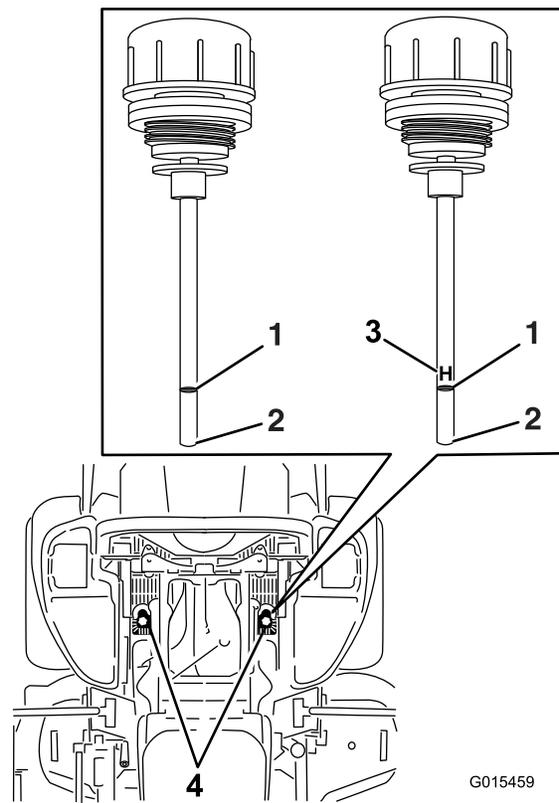

Figure 88
6. Clean the area around the dipsticks of the hydraulic-system reservoirs (Figure 88).
7. Remove 1 dipstick from the hydraulic reservoir (Figure 88).
9. Remove the dipstick and look at the end (Figure 88). If the fluid level is at the ADD mark, slowly pour only enough fluid into the hydraulic reservoir to raise the level to the FULL mark or H line.